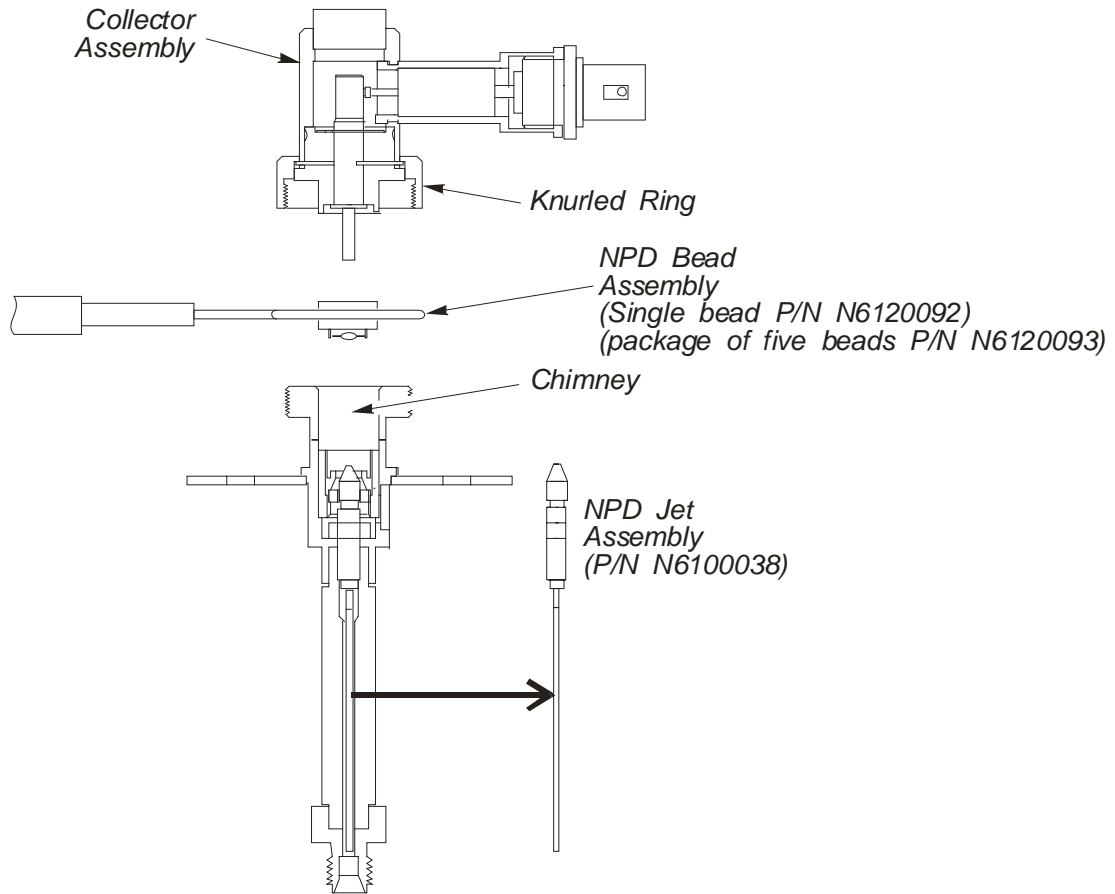

Figure 63. Location of the NPD jet assembly.
5. Loosen the knurled ring on the collector assembly, then remove the collector assembly (Figure 63).